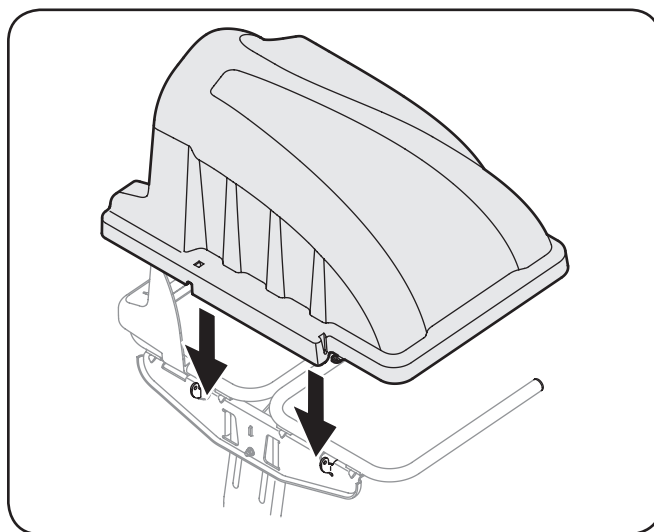

Figure 4-13
5. Install the bagger cover onto the bag support assembly, as seen in Figure 4-13. The plastic cover goes inside of the two mounting tabs.